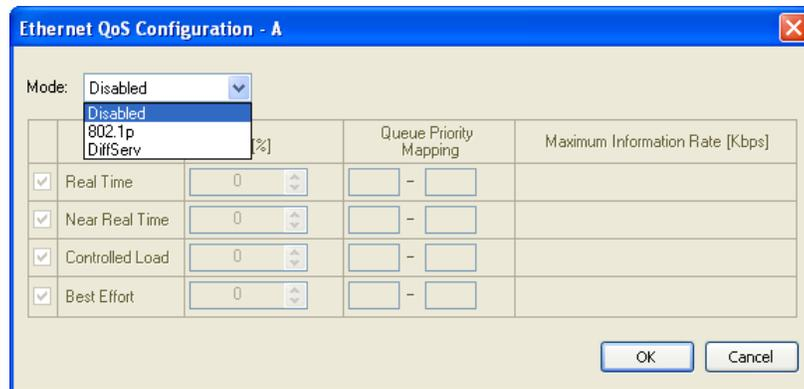

Figure 4-35. Selecting Classification Mode
- Set the Mode to Disabled (see *Figure 4-35*).